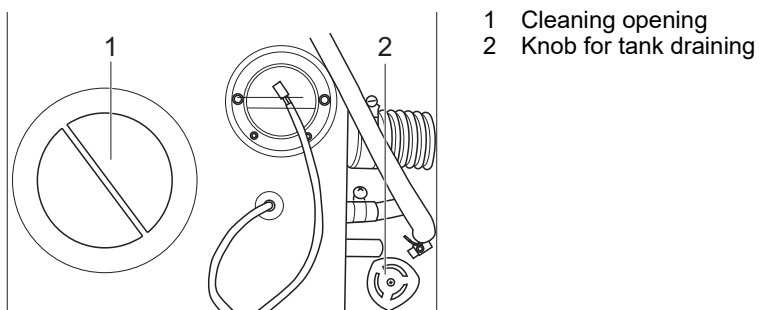
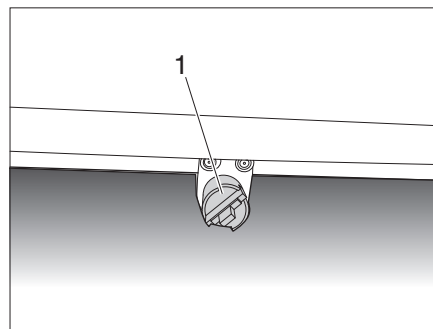
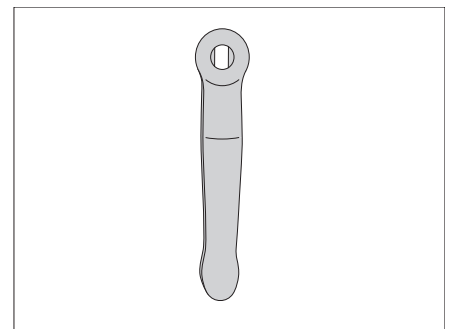
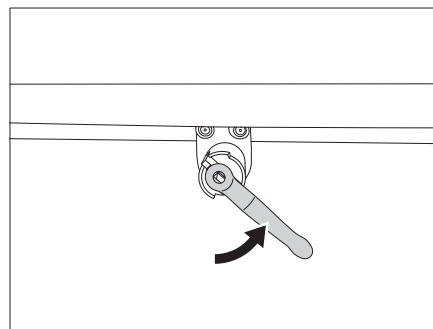

Fig. 68 Fresh water tank
Fig. 70 Drain waste water tank
Fig. 71 Tank key
Fig. 72 Open water tap
- Turn the knob for draining the tank (Fig. 68,1) counter-clockwise until slight resistance can be felt.
- Turn the knob (Fig. 68,1) further counter-clockwise.
- To close the drain turn the knob clockwise until it stops (Fig. 68,1).
- Put the tank key (Fig. 71) on the drain device (Fig. 70,1).
- In order to open the waste water tap, turn the tank key (Fig. 71) a quarter turn anticlockwise (Fig. 72).
- To close the waste water tap, turn the tank key (Fig. 71) back clockwise as far as it will go.
- Ensure that the drainage opening in the inside of the fresh water tank (Fig. 68), the waste water tap (Fig. 70,1) and the safety valve of the hot water boiler are closed.